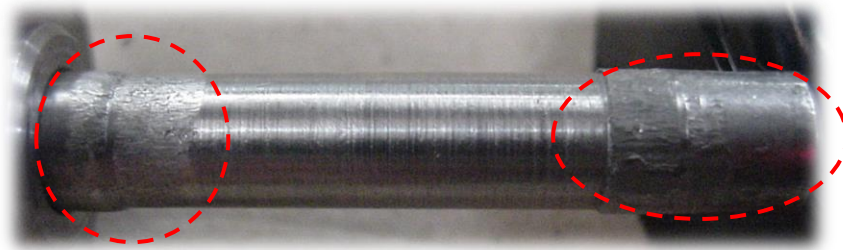

Figure 23: Example of Severe Wear on a Disk Stem
5. Check the portion of the disk stem that slides inside the adjustment screw bore. Verify that its surface is smooth. The surface must not have severe wear. See Figure 23 for an example.